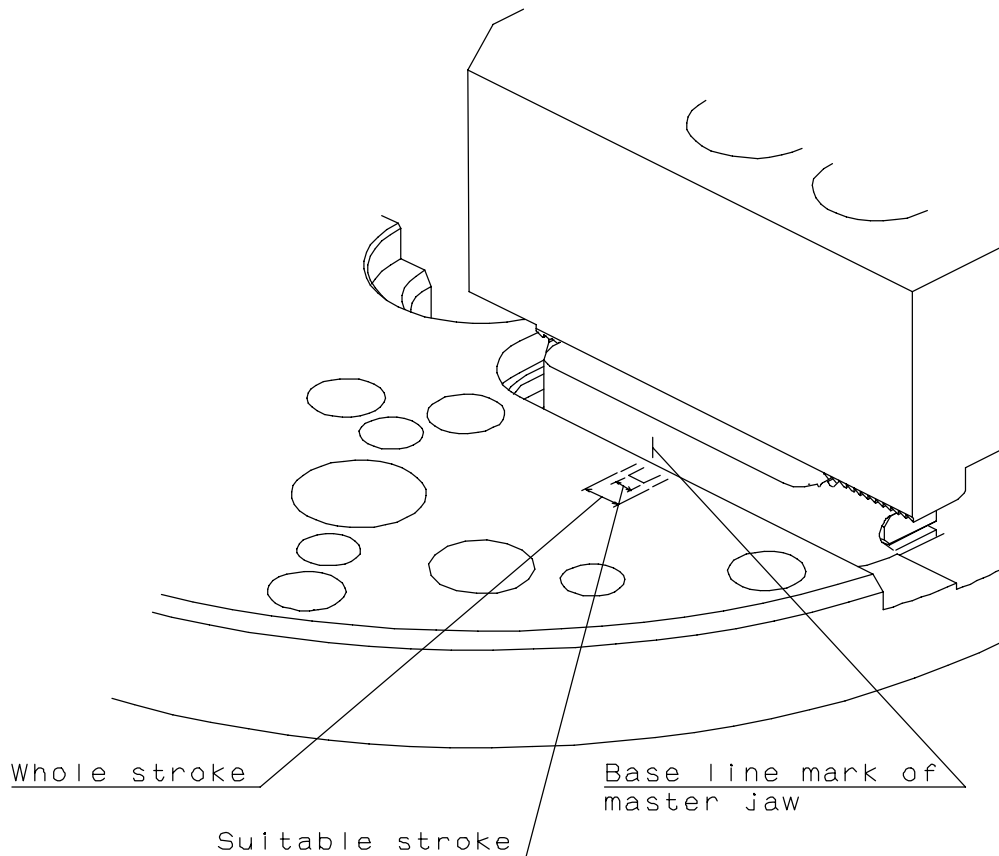

Fig.35
- Full stroke the jaw and check that the reference mark of the master jaw is completely within the entire stroke area (Refer to Fig.35).